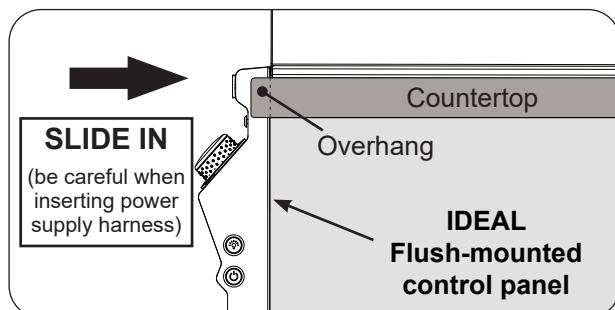

Fig. 26-4 Slide in unit (ensure flush)
- Ensure the unit fully slides in so that the control panel sits flush against the enclosure front wall. See the **COUNTERTOP OVERHANG** section in **ENCLOSURE REQUIREMENTS** for details (see Fig. 26-4).